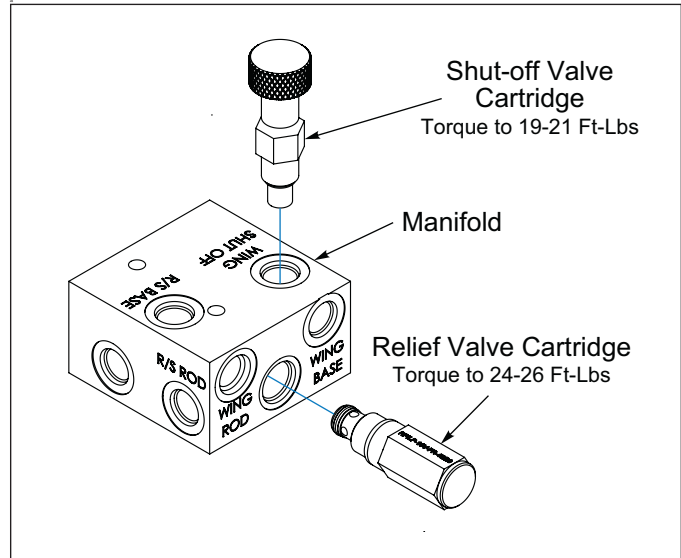

Figure 2-12: Manifold Valve Assembly
4. Lubricate Relief Valve Cartridge and Shut-off Valve Cartridge O-Rings. Install the cartridges into the Manifold torquing the Relief Valve Cartridge to 24-26 Ft-Lbs and the Shut-off Valve Cartridge to 19-21 Ft-Lbs. See **Figure 2-12**.